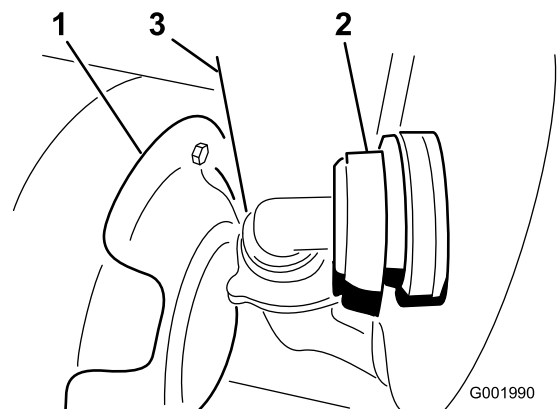

Figure 56
3. Disconnect the hose located on the lower-front face of the tank (Figure 56).
Note: You may need to push the heat shield (Figure 56) back as you remove the cover.
7. Connect the hose on the front of the tank (Figure 56).